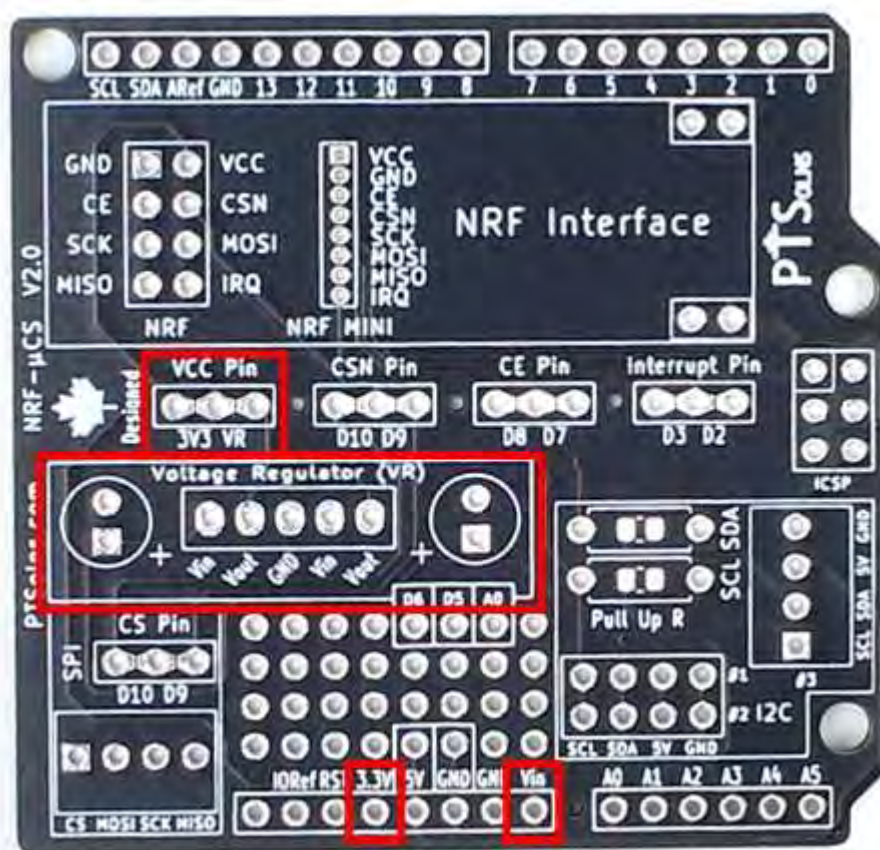

Figure 6: Powering options for the NRF Interface.
The user can make the selection of which method to select by setting the appropriate jumper as seen in Figure 6 in the upper red box with the label “VCC Pin”. How to make and change the jumper is explained in Section 3.2. If the first method is used, then the entire section within the “Voltage Regulator (VR)” is ignored and the supply voltage comes from the 3.3V Pin of the microcontroller below.
NOTE: The right-most capacitor footprint as seen in Figure 6 is strongly recommended to be populated with at least a 10uF capacitor, regardless of which power option is used.
NOTE: The voltage regulator footprint has five through holes, as seen in Figure 6. This is to allow any combination of pinout arrangements of various voltage regulators.